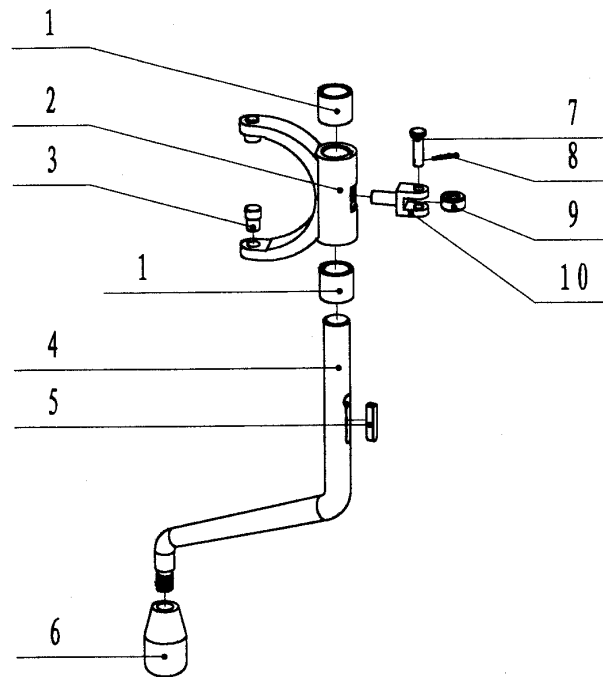

Fig 8
9.2.6 Shift assmbly (Fig 8, Table 8)